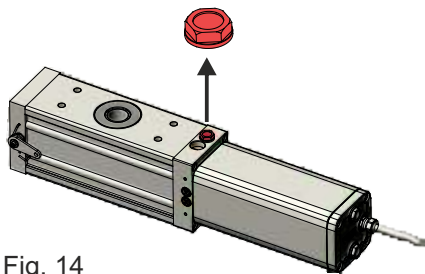
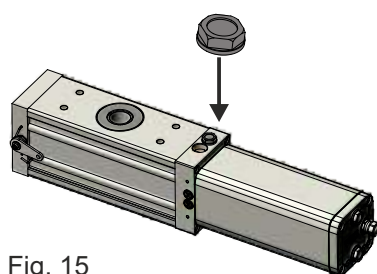

Fig. 14
Fig. 15
- REMOVE **THE RED TRANSPORT CAP UP LOCATED** (FIG. 14) AND REPLACE IT WITH THE BLACK BREATHER CAP SUPPLIED (FIG. 15)
- RETIREZ LE **BOUCHON DE TRANSPORT ROUGE SITUÉ EN HAUT** (FIG. 14) ET REMPLACEZ-LE PAR LE BOUCHON NOIR DE VENTILATION FOURNI (FIG. 15)